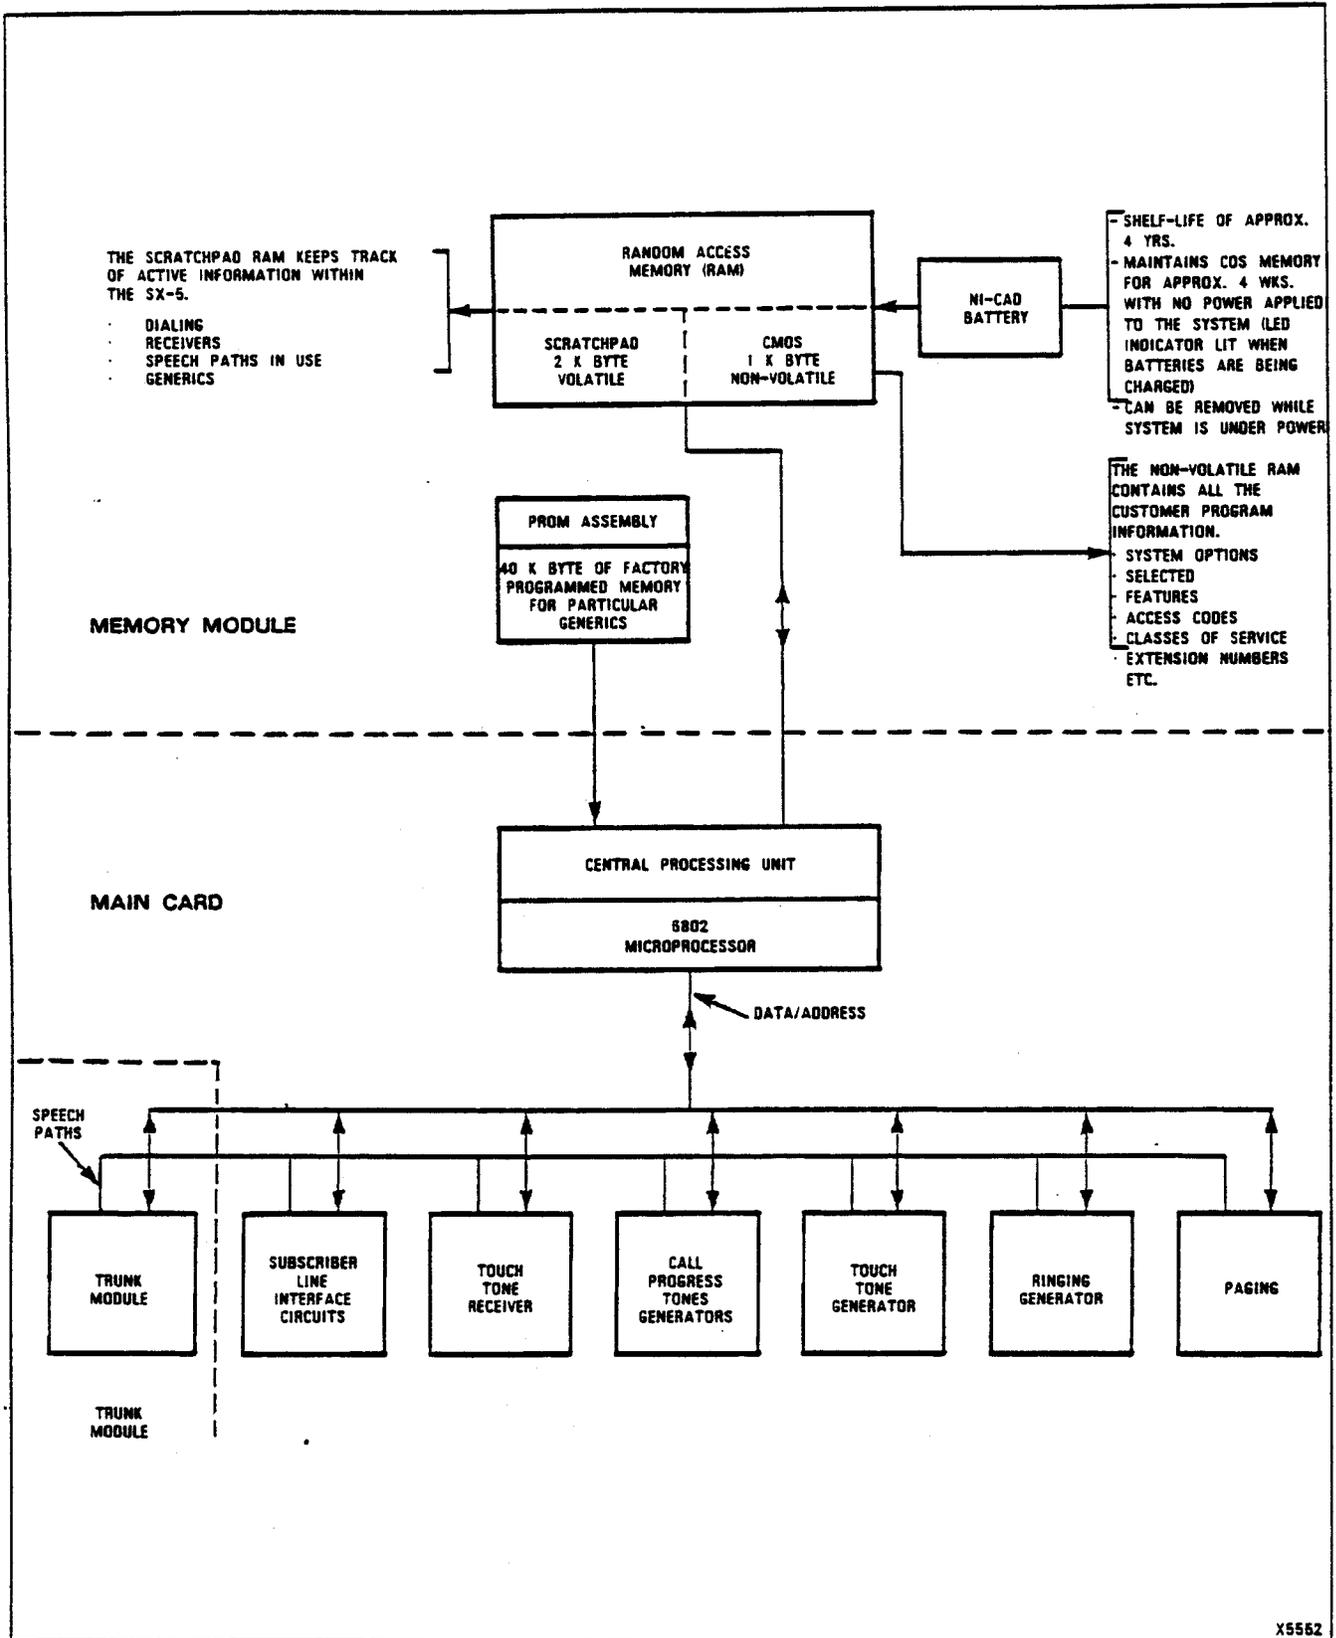

Fig. 9-1 SX-5 Data Flow Interconnection Diagram
9.01 The following subsections give a basic technical description of the SX-5 Communications System. Fig 9-1 should be consulted